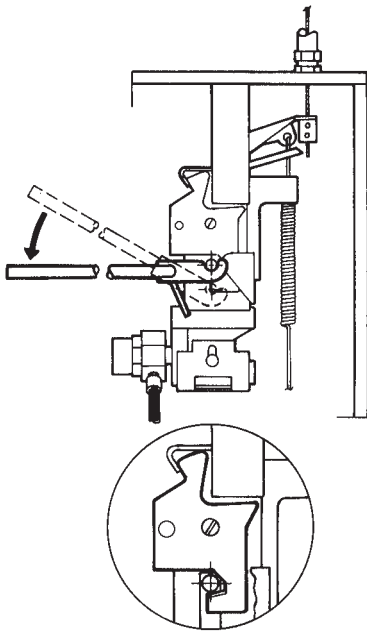

FIGURE 8-18
22. Cock the regulated release mechanism using cocking lever (Part No. 14995 or 435603/Part No. 441042 or 441041). See Figure 8-18.